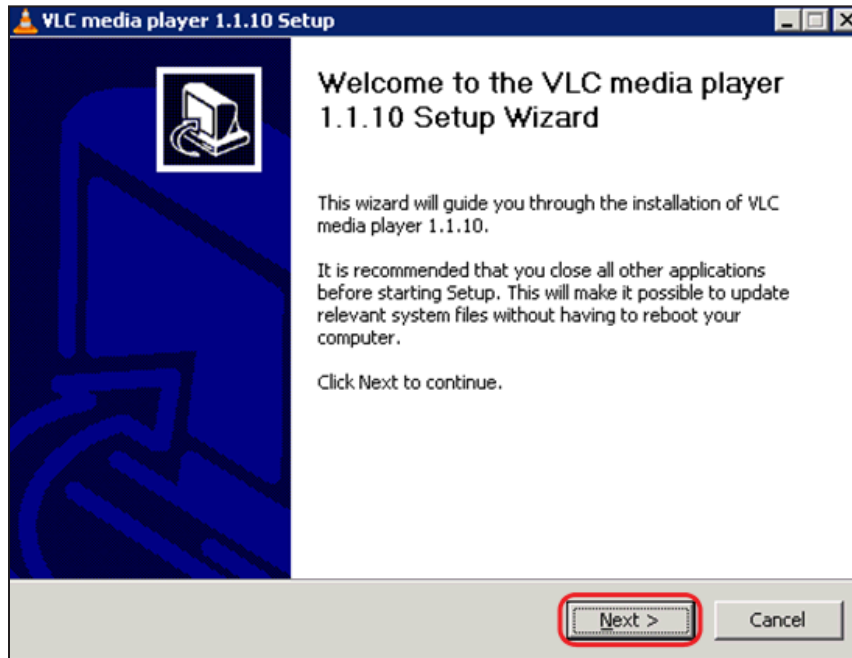

Figure 45. VLC Media Player Installer Welcome Window
6. The VLC media player installer welcome window appears. Click **Next** (see figure 45).